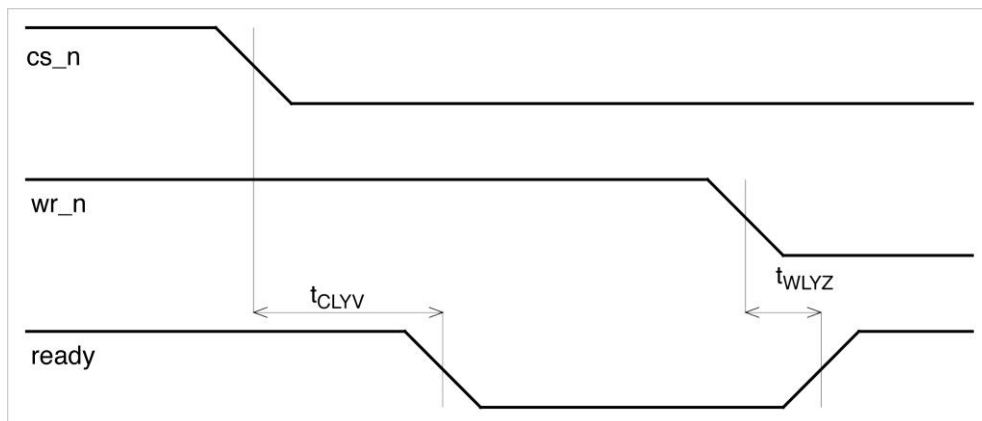

Figure 9. Mode 0 and Mode 1: Ready Timing for Write Cycle with No Write Pending
- Mode 0 and Mode 1: Ready Timing for Write Cycle with No Write Pending (Table 10/Figure 9)